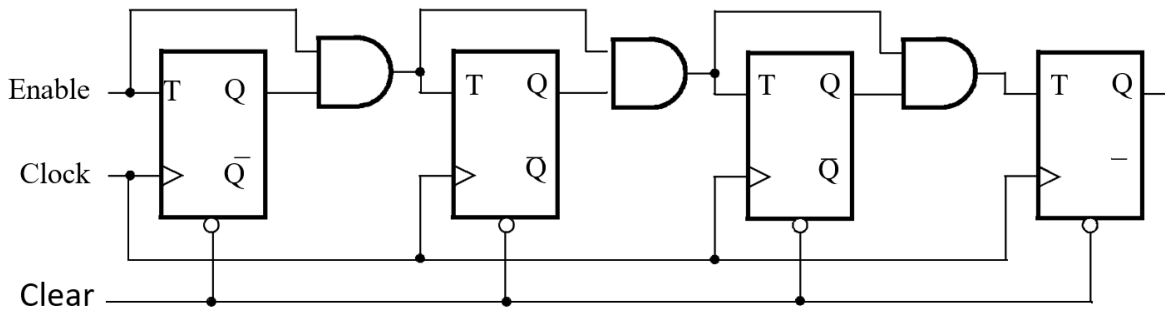

Figure 1. A 4-bit counter.
Consider the circuit in Figure 1. It is a 4-bit synchronous counter which uses four T-type flip-flops. The counter increments its count on each positive edge of the clock if the Enable signal is asserted. The counter is reset to 0 by using the Clear (Reset) signal. You are to implement a 16-bit counter of this type.
1. Write a SystemVerilog file that defines a 16-bit counter by using the structure depicted in Figure 1. Your code should include a T flip-flop module that is instantiated 16 times to create the counter.
6. Use the Quartus II RTL Viewer to see how Quartus II software synthesized your circuit. What are the differences in comparison with Figure 1?